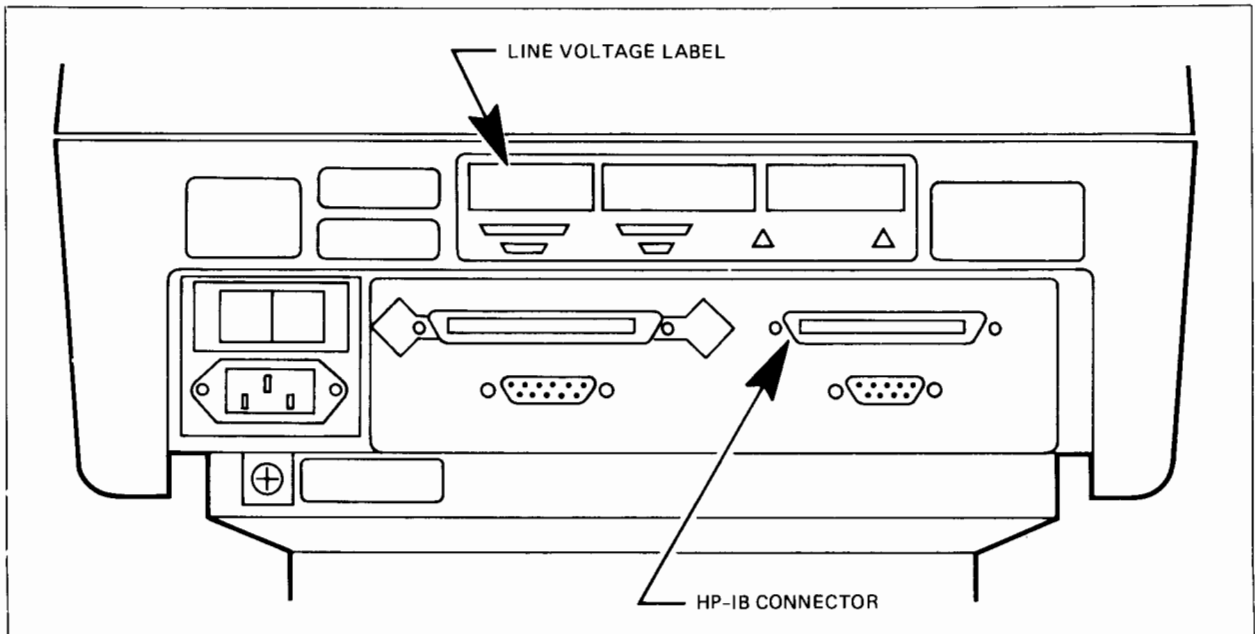
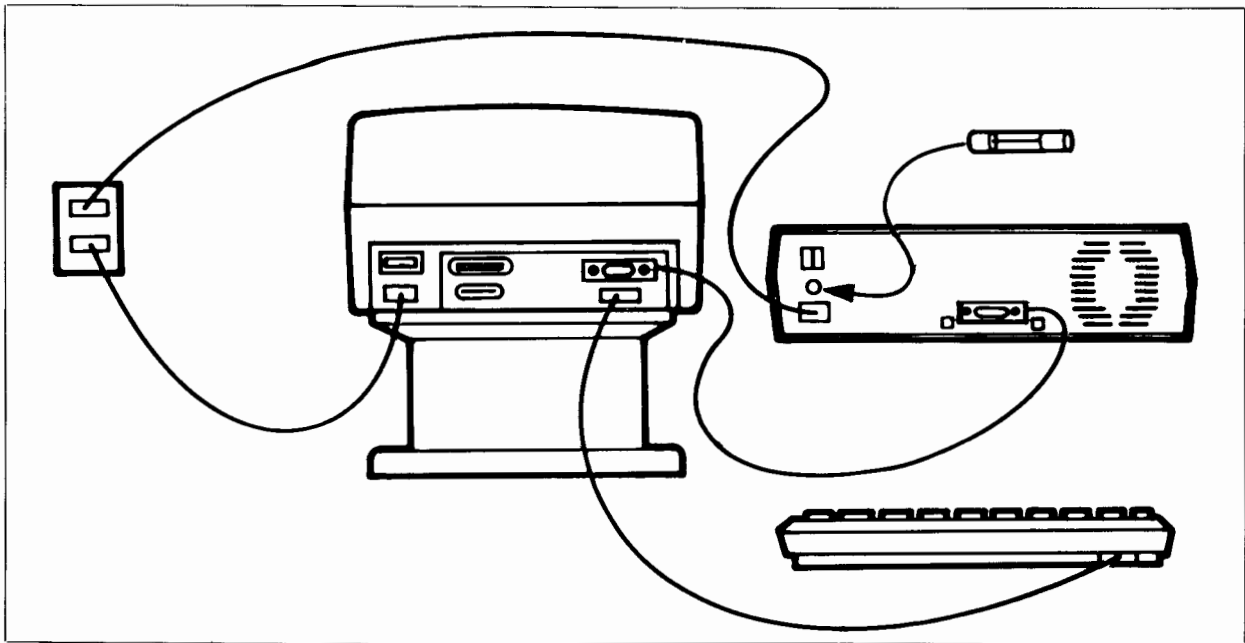

Figure 1-4. HP 125 Rear View.
Figure 1-5. Connecting Your System.
4. Attach the HP-IB cable to the HP-IB connector at the right of your System Processor by securing the screws (refer to Figure 1-4 and Figure 1-5). Notice, there is only one way to attach the HP-IB connector; do not force the connection.
5. Attach the other end of the HP-IB cable to the HP-IB connector at the rear of the disc drive by securing the screws (refer to Figure 1-5).
6. Connect the power cord to the disc drive (located on the rear of the disc drive) and plug the cord into a convenient power outlet. Refer to Figure 1-5.